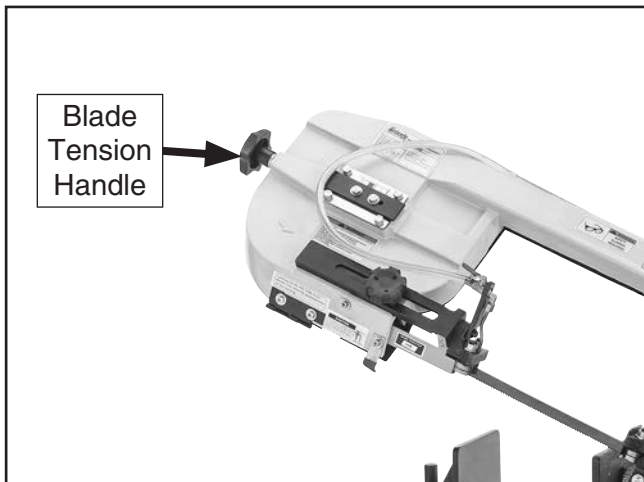

Figure 37. Location of blade tension handle.
1. Turn blade tension handle clockwise to tension blade (see **Figure 37**).